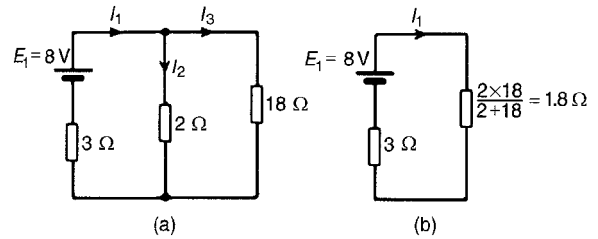
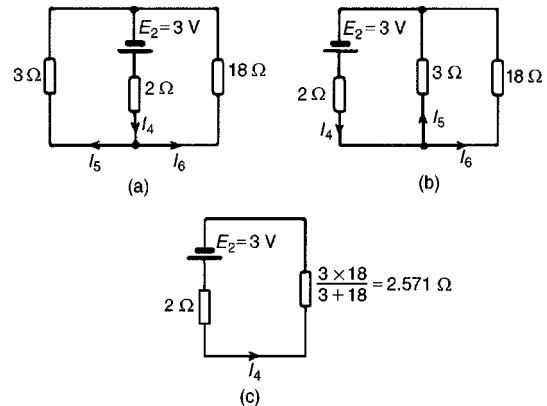
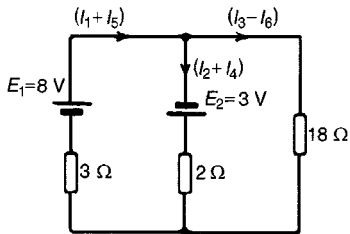

Figure 13.21
Figure 13.22
Figure 13.23
1 Removing source E_2 gives the circuit of Fig. 13.21(a)
2 The current directions are labelled as shown in Fig. 13.21(a), I_1 flowing from the positive terminal of E_1
From Fig 13.21(b),
From Fig 13.21(a),
3 Removing source E_1 gives the circuit of Fig. 13.22(a) (which is the same as Fig. 13.22(b))
4 The current directions are labelled as shown in Figures 13.22(a) and 13.22(b), I_4 flowing from the positive terminal of E_2
From Fig. 13.22(c),
From Fig. 13.22(b),
- 5 Superimposing Fig. 13.22(a) on to Fig. 13.21(a) gives the circuit in Fig. 13.23